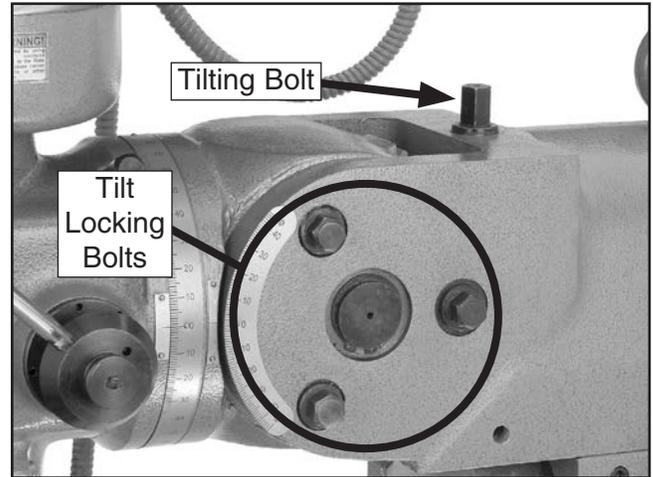

Figure 21. Headstock tilt locking bolts and tilting bolt.
2. Use a 19mm wrench to loosen the three tilt locking bolts shown in **Figure 21**.
3. With one hand pressing against the headstock, apply pressure in the direction of the desired tilt, then use a 19mm wrench to turn the tilt bolt (see **Figure 21**).